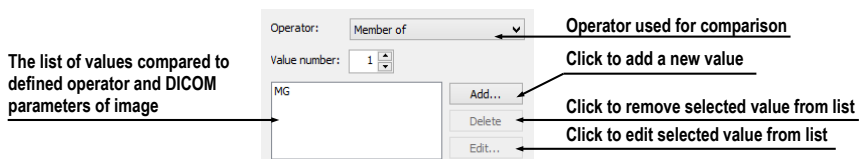

Figure 193 – DICOM criteria set dialog
4. Define the allowed values for the specified DICOM tag (see Figure 193):